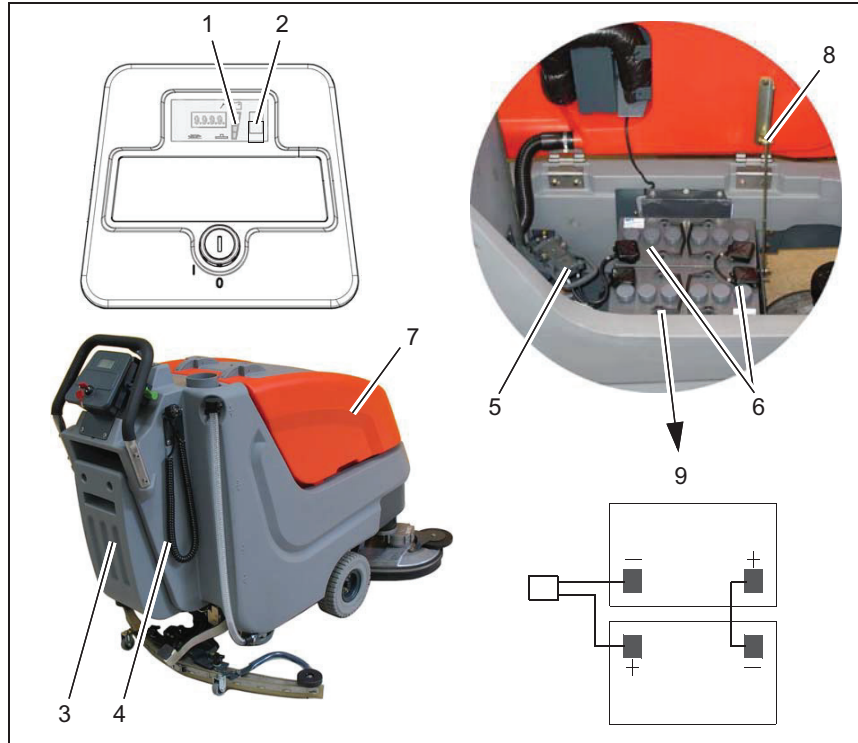

Fig.6
Use the integrated battery charger (Fig. 6/3) to charge batteries. Proceed to connection of the charger by means of the mains cable (Fig. 6/4) with safety plug. Charging batteries is recommended if at least one bar of the LDS display has extinguished after operation of the machine. On this behalf you are requested to observe the operating instructions of the charger 88-60-2723 as well as the operating instructions of the battery manufacturer.
3. Open empty soiled water tank (Fig. 6/7) and secure by support (Fig. 6/8).
4. Disconnect battery plug (Fig. 6/5).
2. Open empty soiled water tank (Fig. 6/7) and secure by support (Fig. 6/8).
4. Connect battery poles and enclosed connecting cables according to wiring diagram (Fig. 6/9). Provide for tight fitting and grease poles.